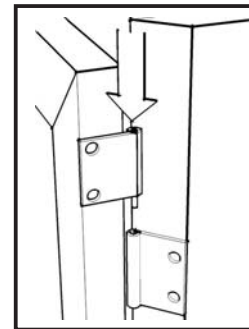

Figure 5
Attach Doors (J) and (K) by sliding the door lift hinges into the side panels lift hinges (see Figure 5).